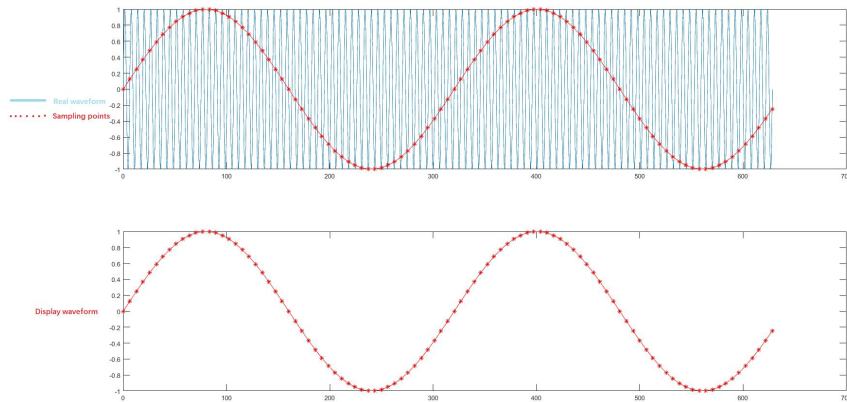

Figure 10-2
- **Waveform Aliasing:** Since the sampling rate is 2 times lower than the actual signal frequency (Nyquist frequency), the waveform frequency is less than the frequency of actual signal when sampling data is reconstructing, as shown in Figure 10-2.